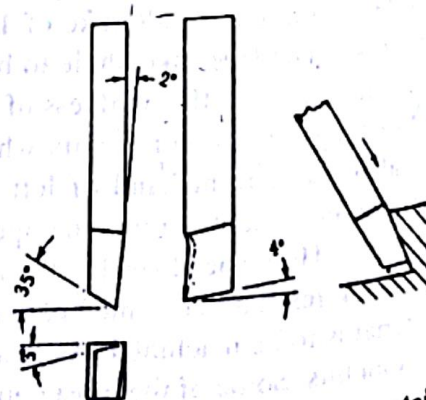

Figure 7.30 A left hand dovetail cutting tool for finishing
6. A left hand dovetail cutting tool (finishing) (Fig.7.30)